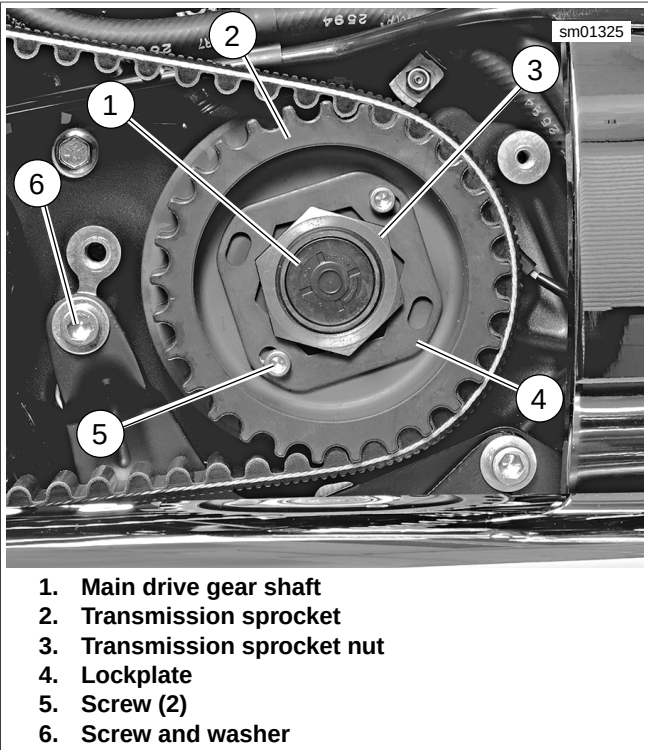

Figure 5-108. Transmission Sprocket Assembly: All Models (XL Model Shown)
5. See Figure 5-108. Remove screw and washer (6) from exhaust interconnect bracket.
1. See Figure 5-108. Remove two screws (5) and sprocket lockplate (4).
1. See Figure 5-108. Install transmission sprocket (2) onto main drive gear shaft (1).
- d. See Figure 5-108. Install lockplate (4) over nut (3) so that two of lockplate's four drilled holes (diagonally opposite) align with sprocket's (2) two tapped holes.
1. See Figure 5-108. Install screw and washer (6) to secure muffler interconnect bracket to engine crankcase. Tighten to 30-33 ft-lbs (40.7-44.8 Nm).